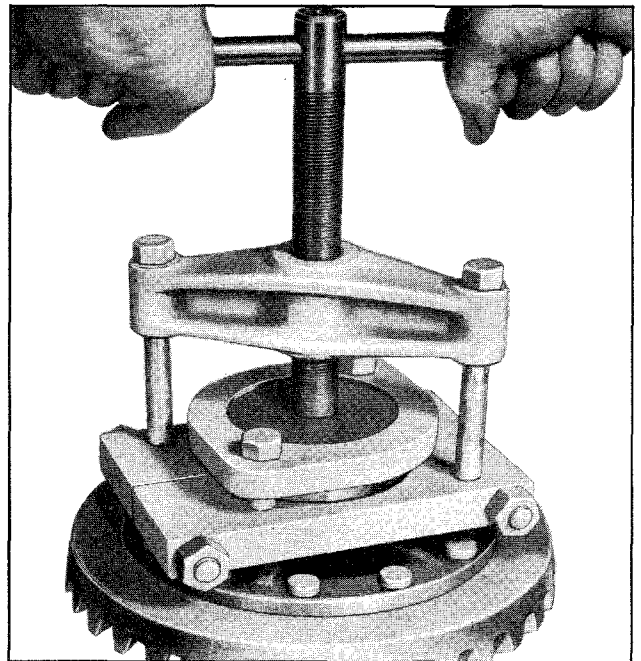

Figure 4—Differential Side Bearing Removal
2. Remove side bearings (39) from each half of case, using special bearing puller CS-1047 as shown in figure 4.
3. Remove lock wire and nuts (4) from bolts (43) which hold the two halves of differential case (11) together; then separate halves of case (11).
4. Remove side gears (9), thrust washers (10) and (3), spider (2), and pinions (42) from differential case (11).
5. If either drive gear (1) or drive pinion (29)